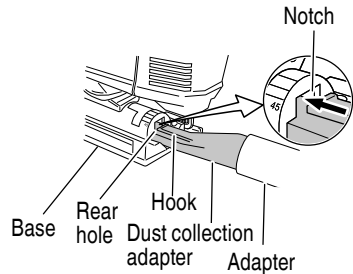

Fig. 23
- (5) Insert dust collection adapter into the rear hole of the base until the hook catches in the notch. (Fig. 23)
- (6) Press the hook to remove the dust collection adapter. (Fig. 23)